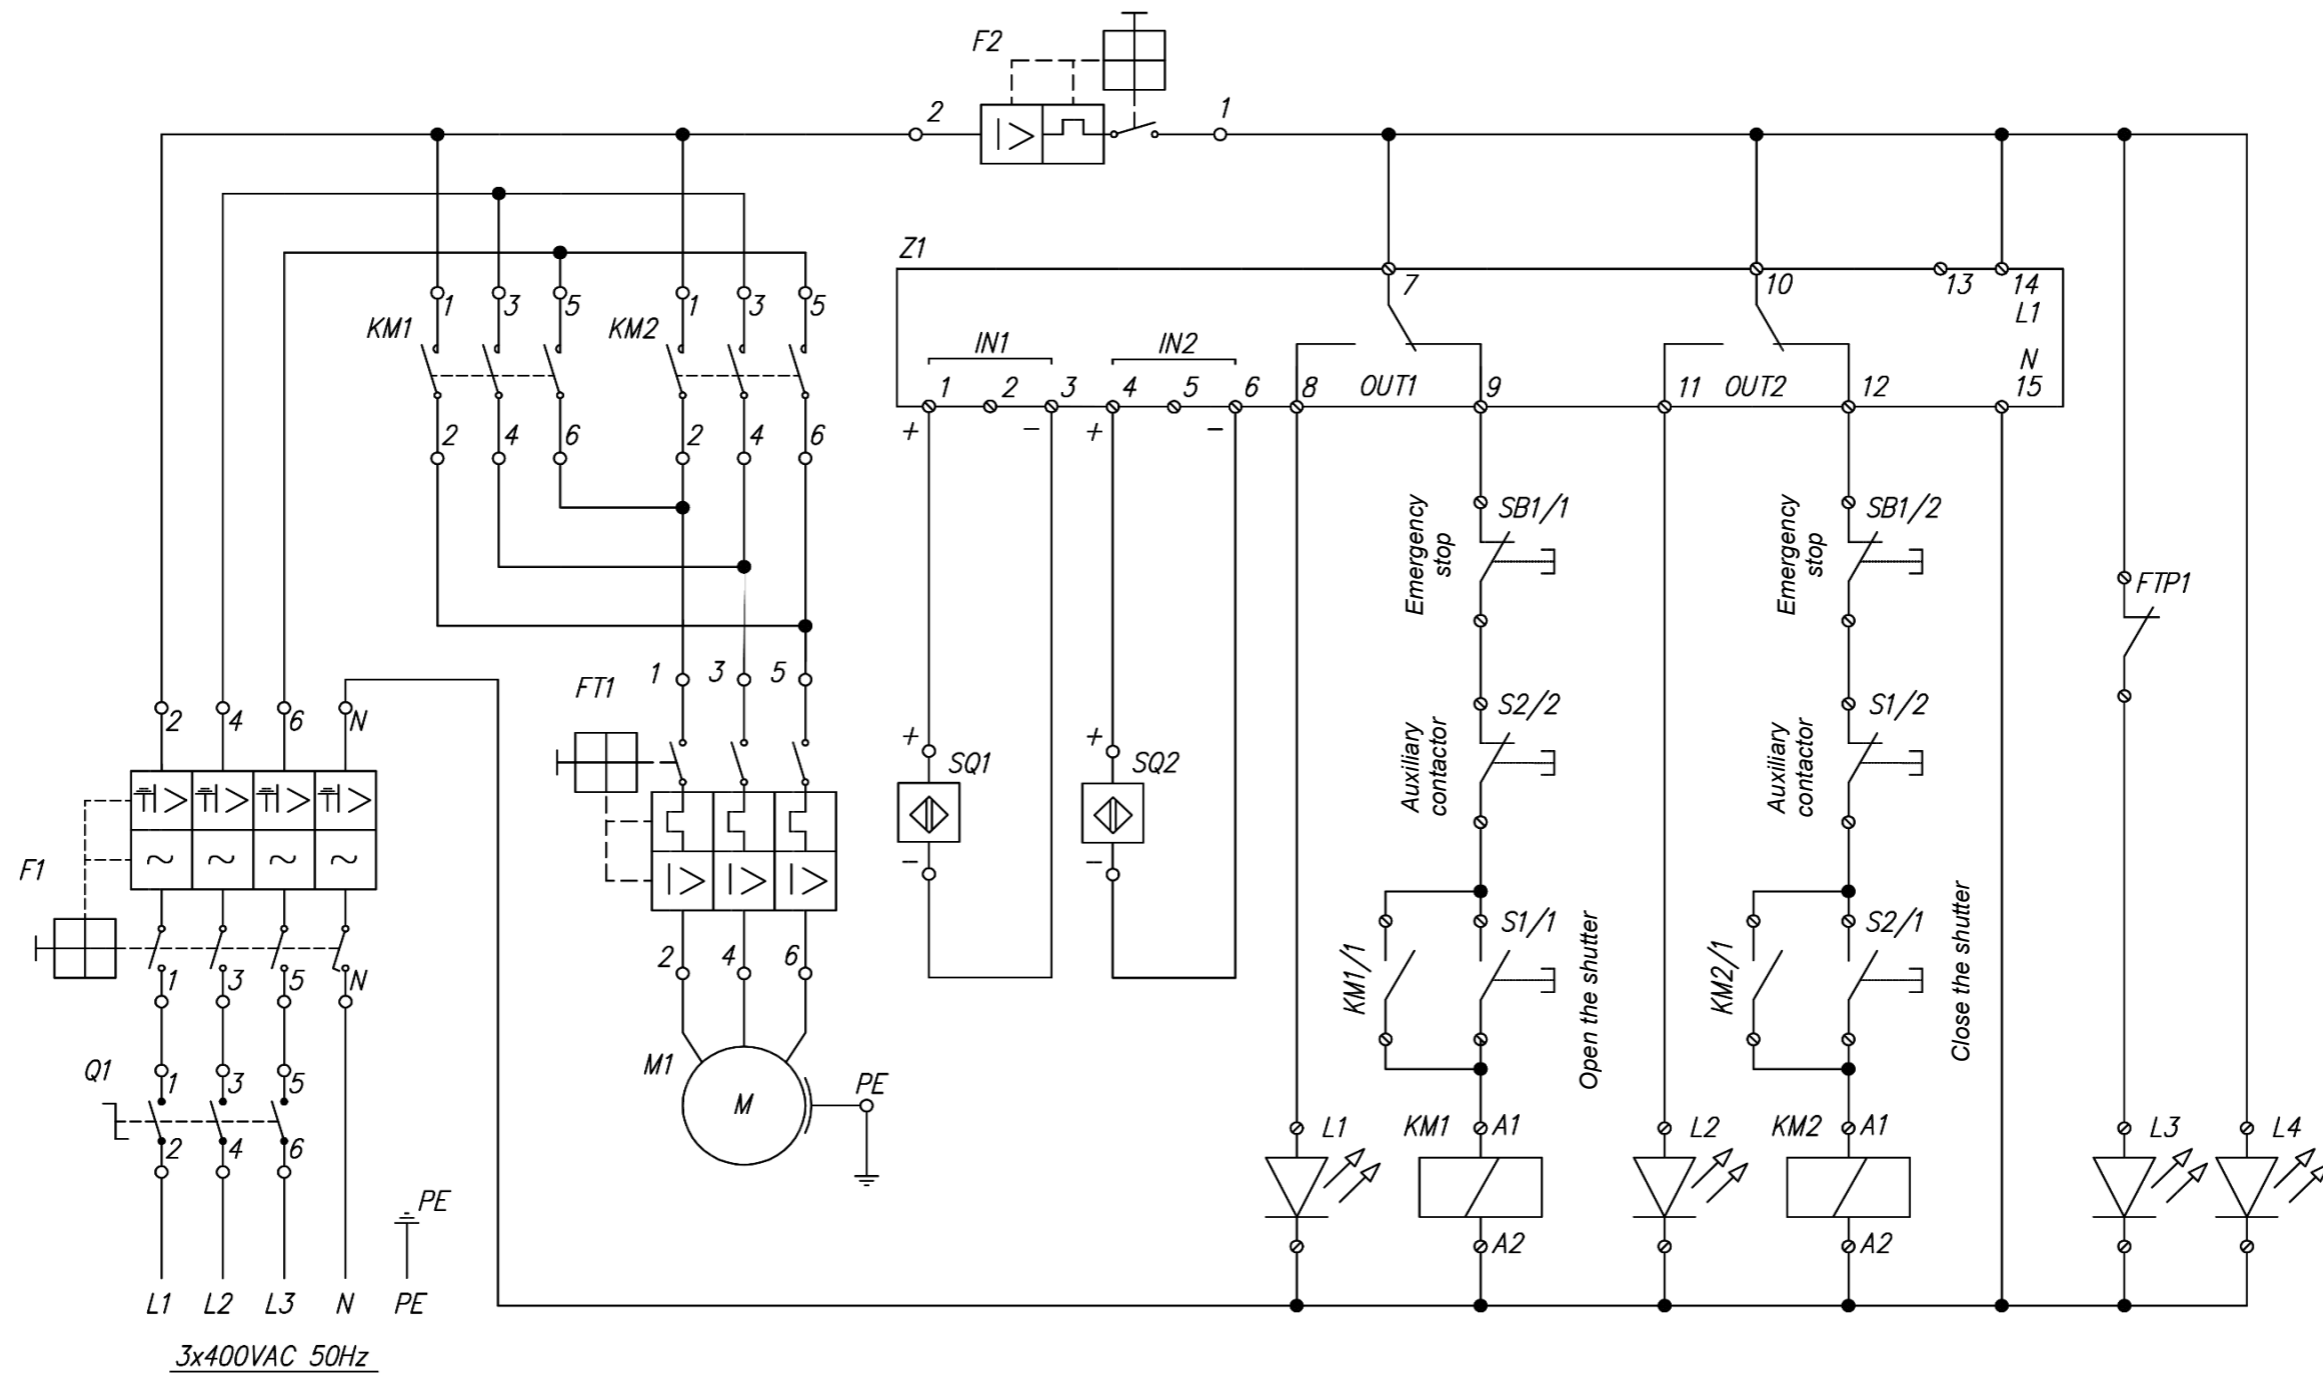

Figure 11. An example of the wiring diagram for shutters of the PSX.....-ZAS/E type
The design documentation of the investment must include appropriate design study for the electrical system, taking into account the shutter connection, together with auxiliary equipment. The investor is responsible for ensuring that this design study is drawn up by a person holding relevant licences in accordance with current legislation. An example of the wiring diagram is shown in Figure 11.
The electrical system (Figure 11) must meet the following requirements:
- all devices and subunits of the electrical system (Figure 11), except for the sensors (SQ1 and SQ2), should be installed outside the explosion hazard zone.
NOTE: Devices and subunits (Figure 11): Q1, F1, F2, FT1, Z1, KM1, KM2, L1, L2, L3, L4, SB1, S1, S2 and FTP1 are not the shutter equipment.